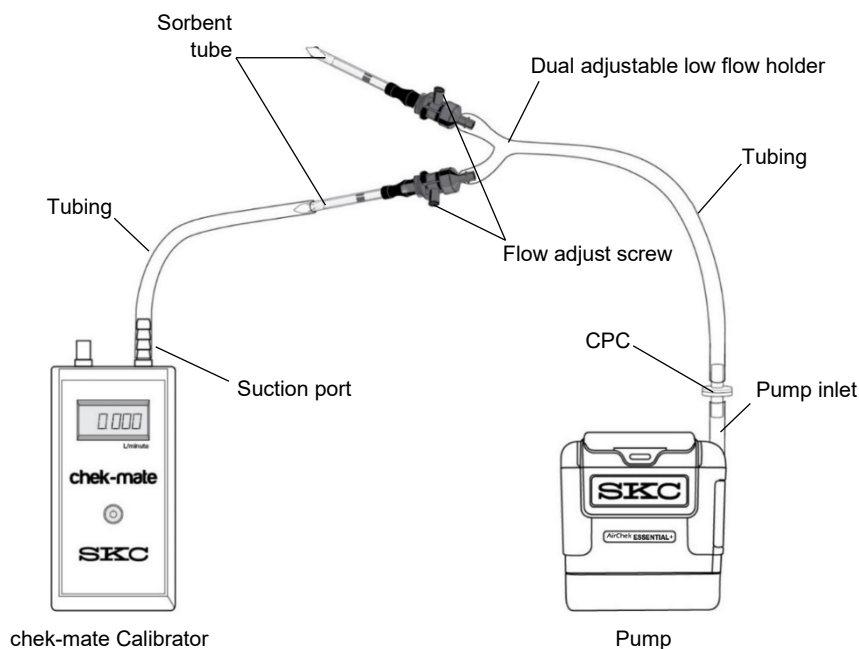

Figure 5. Calibration Train (5 to 500 ml/min) for Multiple Tubes
- Multiple-tube sampling can be done using a Constant Pressure Controller (CPC) (Figure 5) and a Dual, Tri, or Quad Adjustable Low Flow Tube Holder accessory. See CPC and Adjustable Low Flow Tube Holder operating instructions for details on operation.
1. On the tube holder, insert an opened representative sorbent tube (arrow on tube pointing toward the pump) into the rubber sleeve on the port. Repeat for the desired number of tube samples. See *Figure 5*. **Note:** Place an unopened (inactive) tube in any unused port to “seal” it.
Calibrate Flow Rate with Dual, Tri, or Quad Adjustable Low Flow Tube Holder (see Figure 5)